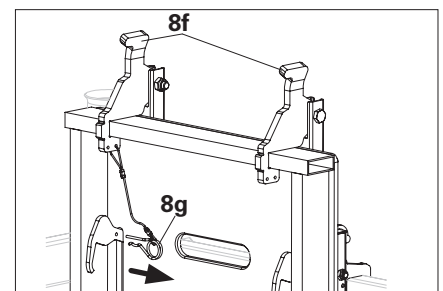

Fig. A1.05b
2. Remove cotter pin (8g) from the underside of the deck. (Fig. A1.05b)